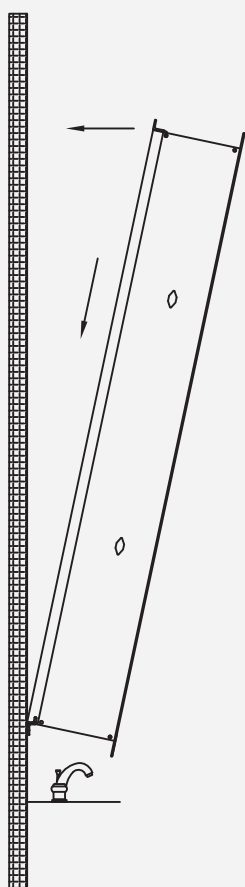

Fig 11
5. Place cabinet into wall bracket (Fig 11). Mark hole locations of z-clips (Fig 12). When determining location, it is recommended that at least one z-clip be located at a stud. Detach cabinet and drill 8mm hole if needed for anchor, and place in anchor in hole.